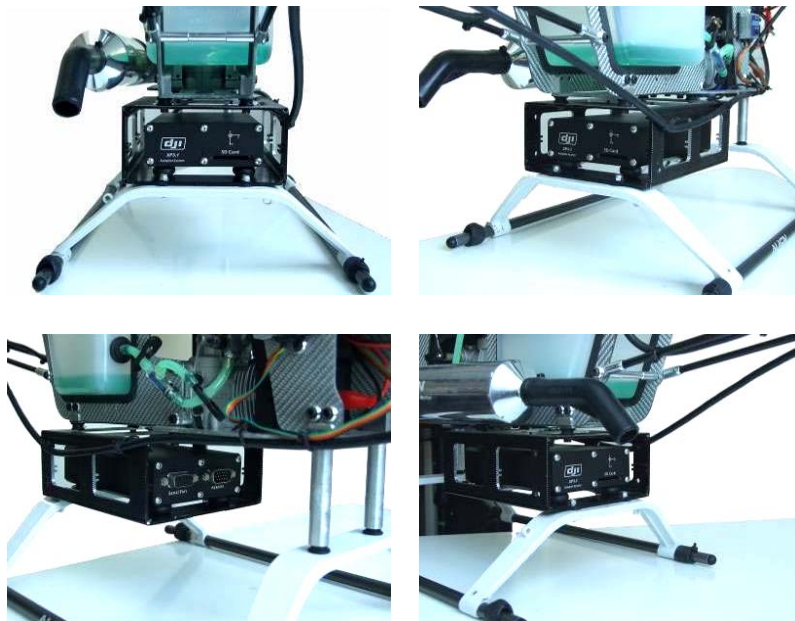

Figure3. 6
3. Users can find a suitable position^① for the Main Controller according to the above requests and helicopter's structure. Followings are two installation examples (Figure3. 6 and Figure 3. 7).